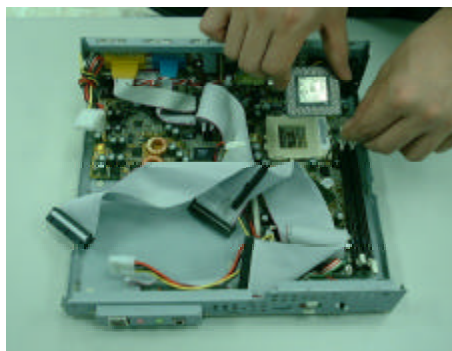

Figure 5-7
8. Installing or removing the CPU fan as shown in figure 5-7 below.